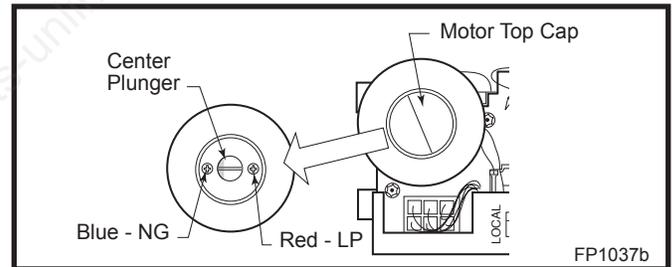

Fig. 75 Depress and turn center plunger.
4. Remove motor top cap. Depress and turn center plunger until arrow points to correct screw. Red for LP and Blue for NG. **NOTE:** Plunger will "snap" into NG position when arrow is close to blue screw. It will not "snap" at LP (Red) position. (Fig. 75)